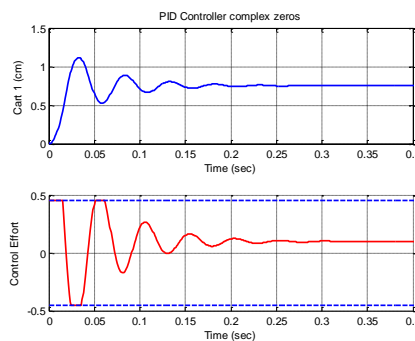

Figure 1: Bad Control Effort Example
- Run the **closedloop_driver.m**, plot the control effort for approximately 0.2 seconds since the control effort is usually largest near the initial time. If your control effort reaches its limits, you need to go back to **sisotool** and modify your designs. See Figure 1 for an example of bad control effort.